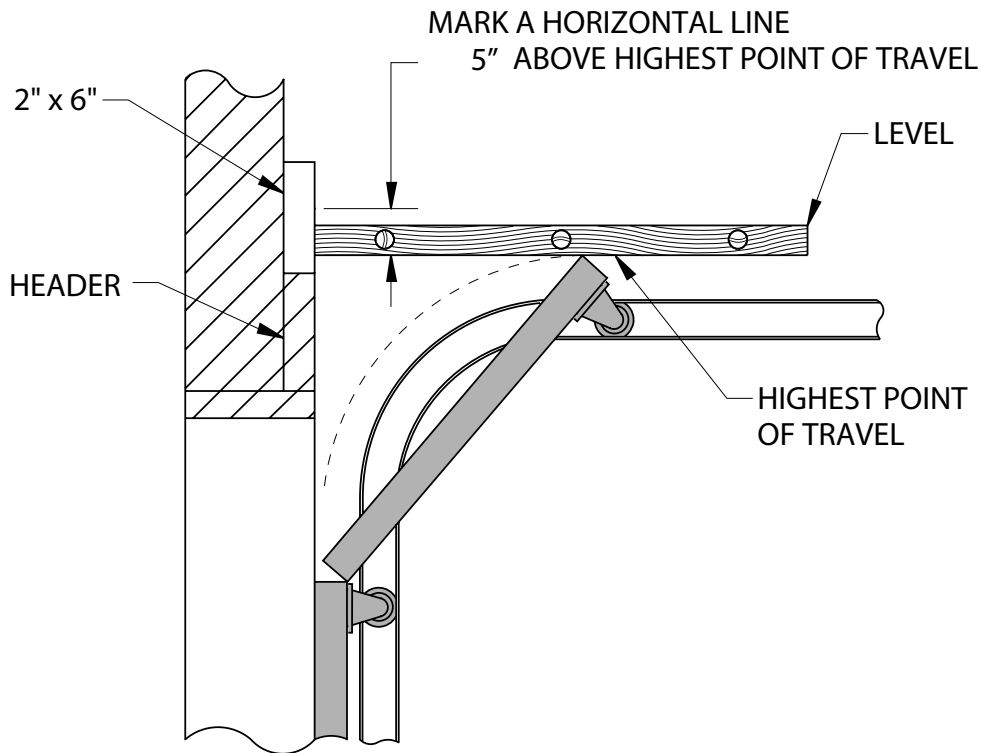

FIG. 7
5. Use a level, as shown in FIG. 7, to find the highest point of travel for the door.